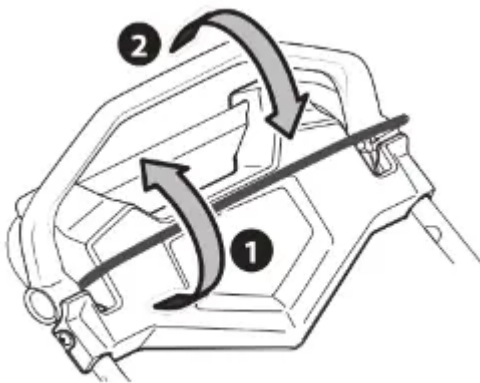

Figure 31
1. Once the engine is running and while continuing to hold the blade and drive controls together, push the drive control forward to propel the mower. The farther the controls are pushed forward, the faster the mower will propel. (Figure 31).